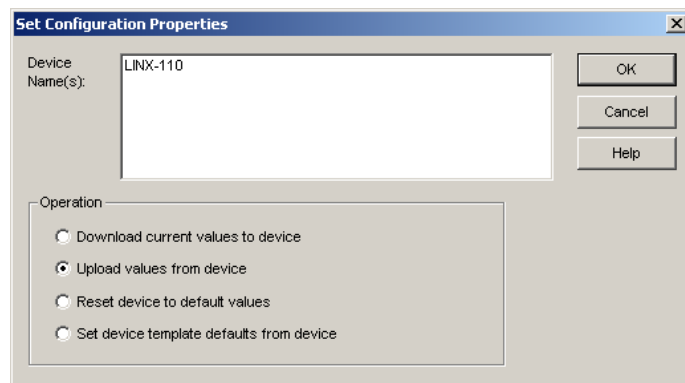

Figure 115: Set Configuration Properties in LonMaker TE.
2. This opens the dialog shown in Figure 115.